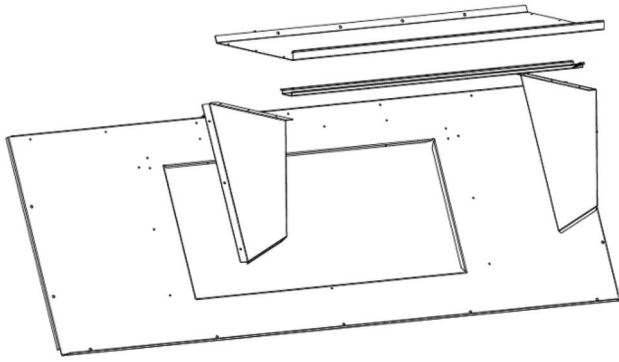

Fig. 32 – Barometric Hood Exploded View
3. Install parts as shown in the following exploded view (see Fig. 32) using the seal strip and screws provided in the parts box.